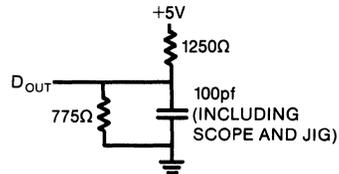

Fig. 1
- Output Load ..... See Figure 1